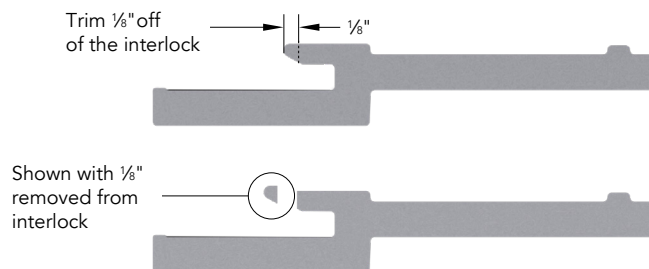

Figure 10
- It may be necessary to remove $\frac{1}{8}$ " from the interlock on the panel to be installed to allow the panel to slide into the trim, clear the existing panel, and have proper engagement. Use a utility blade to complete this task (Figure 10).
- The last course may require you to remove $\frac{1}{8}$ " from the interlock on the panel to be installed, allowing the panel to slide into the trim accessory and engage on the previous panel (Figure 10).